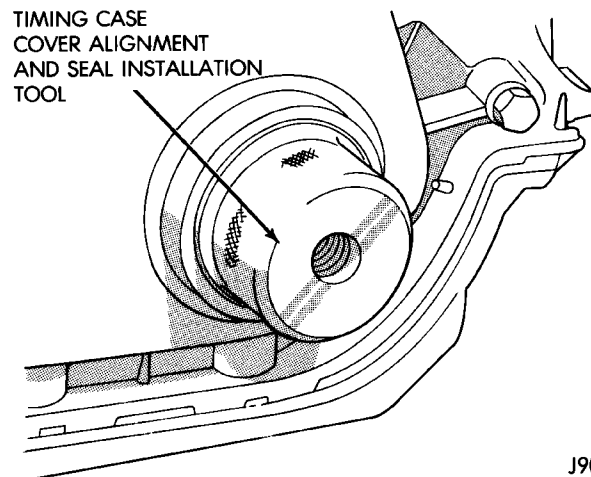

Fig. 49 Timing Case Cover Alignment and Seal Installation Tool 6139
- (6) Install the crankshaft oil slinger.
- (7) Tighten the camshaft sprocket preload bolt to 108 N·m (80 ft. lbs.) torque.
- (8) Check the valve timing.
(9) Lubricate the tension spring, the thrust pin and the pin bore in the preload bolt with Mopar Engine Oil Supplement, or equivalent. Install the spring and thrust pin in the preload bolt head.
(10) Coat both sides of the replacement timing case cover gasket with gasket sealer. Apply a 3 mm (1/8 inch) bead of Mopar Silicone Rubber Adhesive Sealant, or equivalent to the joint formed at the oil pan and cylinder block.
(11) Position the timing case cover on the oil pan gasket and the cylinder block.
(12) Place Timing Case Cover Alignment and Seal Installation Tool 6139 in the crankshaft opening in the cover (Fig. 49).